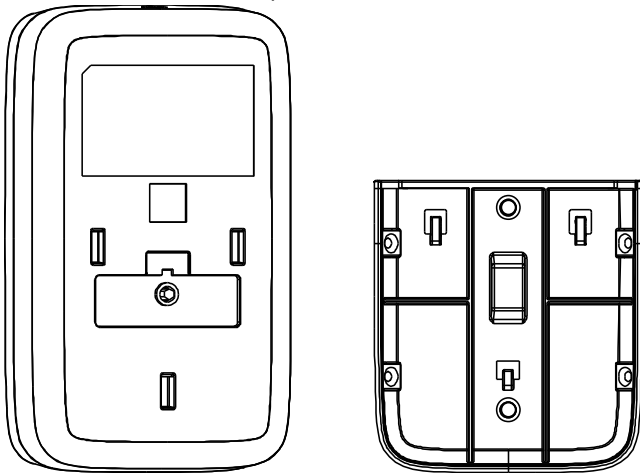

Figure 4-3
Step 1. The sensor should be mounted in about 2.1~2.5m height. Take down installation bracket at the bottom back of detector; see Figure 4-3 below. (Left: PIR Sensor, Right: Installation bracket)